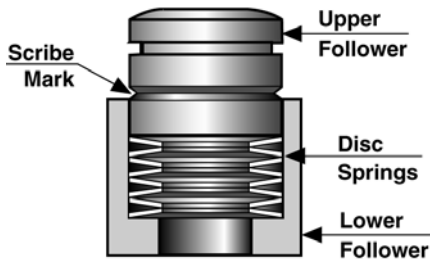

Figure 14
The spring loaded follower (available for applications rated ANSI 300 and below) consists of an upper and lower follower and eight (8) disc springs (see Figure 14). The springs are installed inside the lower follower and positioned alternately. The assembly is held together by tape, which must be removed before installation.